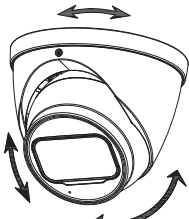

Figure 3-4
- For model B and model C, put the enclosure ⑥ back on and adjust the locking screw ⑨ to hold it, leave some spaces enough for you to adjust the device ⑤. Aim the lens to the ideal angle and adjust the focus until you get clear image (see Figure 3-4) and fasten the locking screw ⑨.